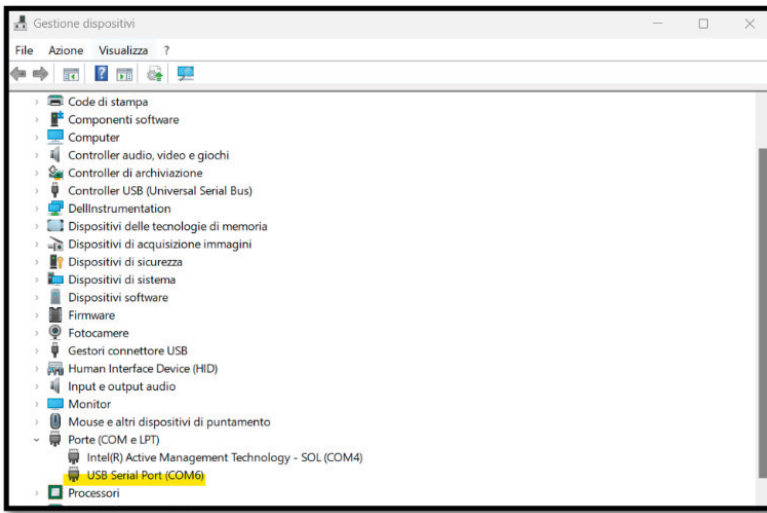

Figure 4
3. Check the USB serial port connected (COM_*) in the computer devices section (Figure 4)